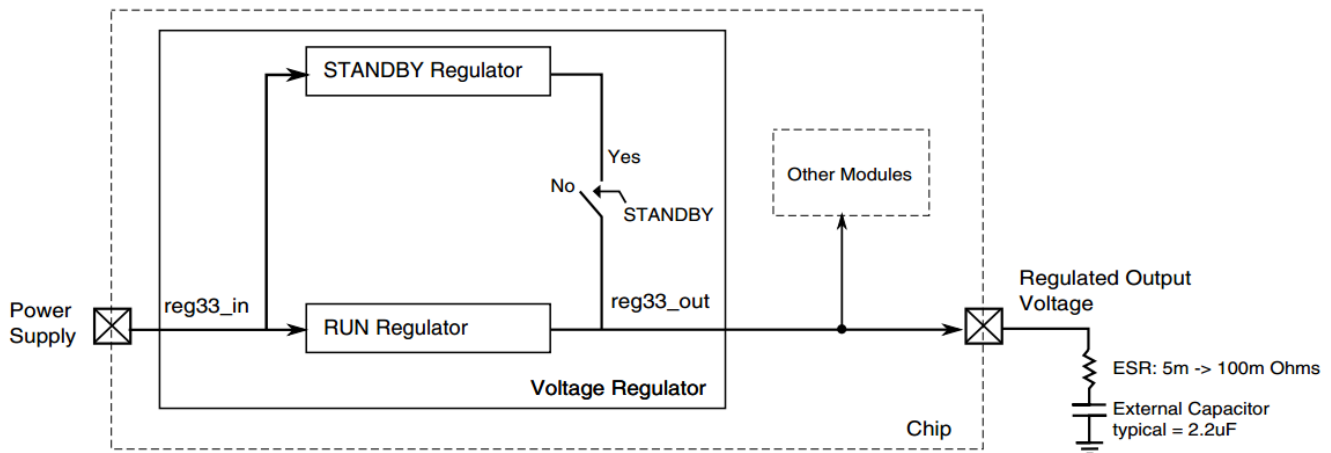

Figure 9-3. Voltage regulator block diagram
When Standby mode is enabled, the regulator limits maximum current load to 1 mA. If VOUT33 is the main power supply of the MCU, there would not be enough current for the MCU to execute instructions. The USB voltage regulator implements a protection mechanism that controls when the USB voltage regulator is placed in Standby mode. See Figure 9-3.
- **Run mode:** The regulating loop of the RUN regulator and the STANDBY regulator are active, but the switch connecting the STANDBY regulator output to the external pin is open. See Figure 9-3.
- **Standby mode:** The regulating loop of the RUN regulator is disabled and the standby regulator is active. The switch connecting the STANDBY regulator output to the external pin is closed. See Figure 9-3.